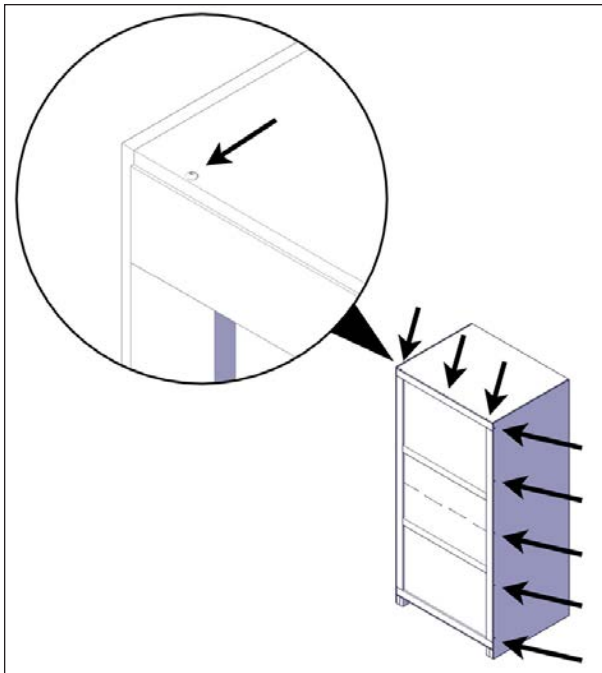

FIGURE 16: CARDBOARD REMOVAL
4. Unscrew the #8 x 1.5" Robertson screws holding the front cover – 5 screws per side and 3 on the top. You might need a step ladder to reach the top screws, see Figure 16.